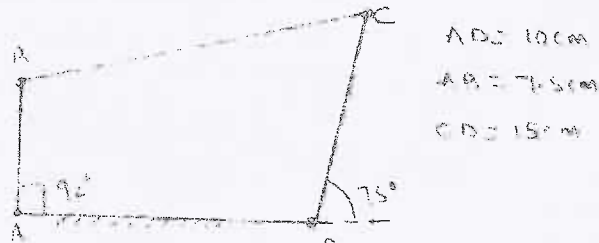

Fig. Q5
- 5 In the 4-bar mechanism shown in Fig. Q5, link AB rotates uniformly at 2 rad/sec in CW sense. Using complex algebra write loop closure equation for this. Determine magnitude and directions of angular velocity and angular acceleration of links BC and CD using vector algebra. Also, state whether the magnitudes of angular velocity of these links tend to increase or decrease at the instant. (20 Marks)